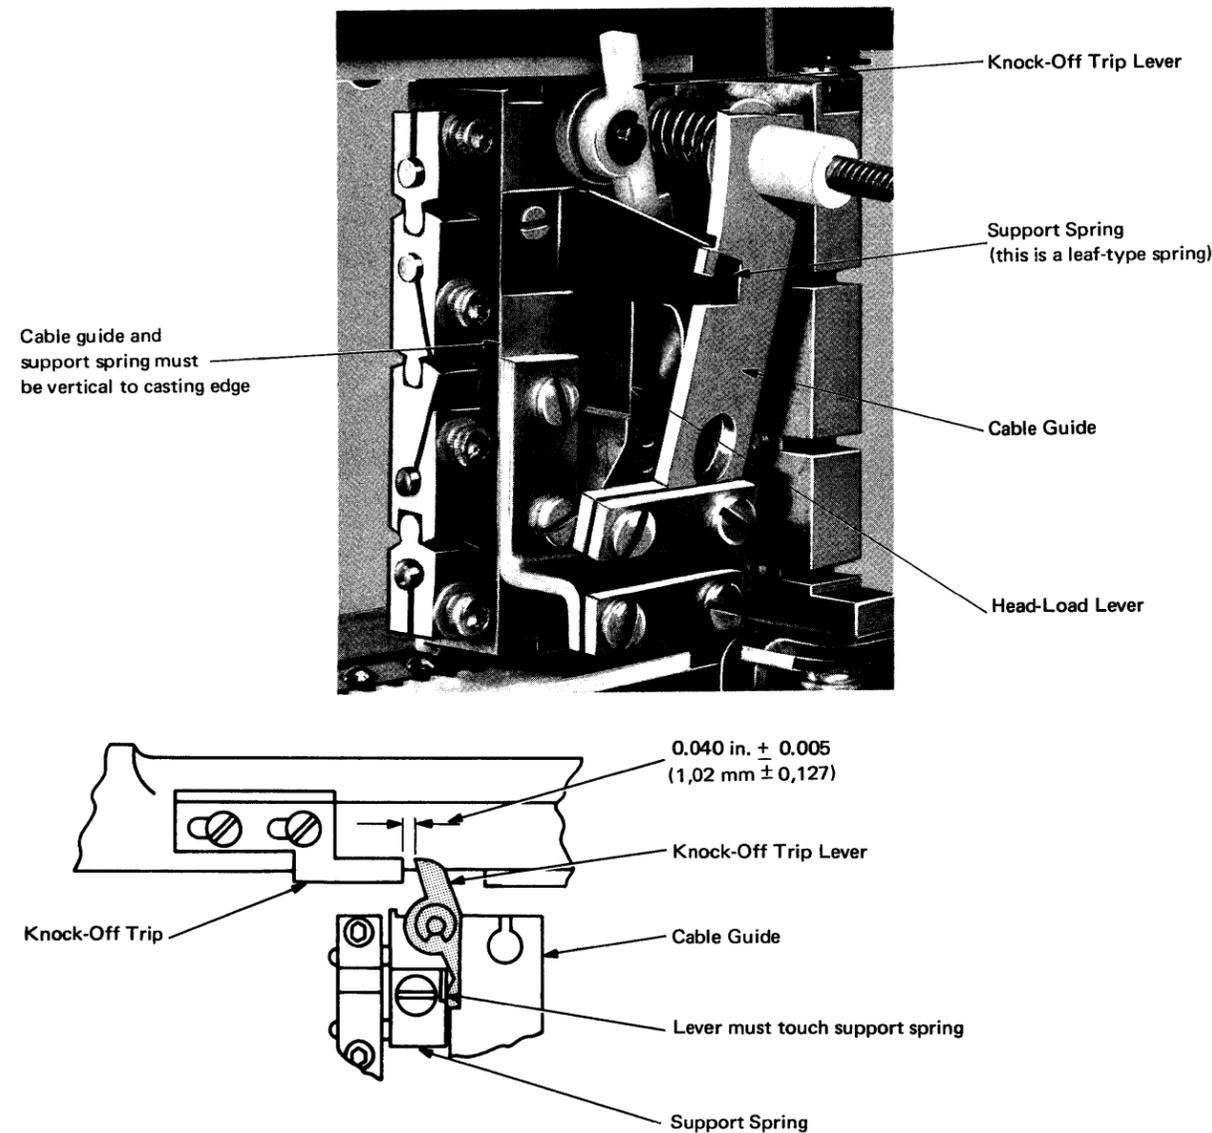

Figure 2-43. Knock-Off Trip Adjustment [07577]
1. After fitting and clamping the head-load lever, check that the support spring and cable guide are vertical to the carriage casting (Figure 2-43), to allow the head-load cable to run straight between the head-load lever and the cable guide. Ensure that the ear on the cable guide engages fully in the support spring.